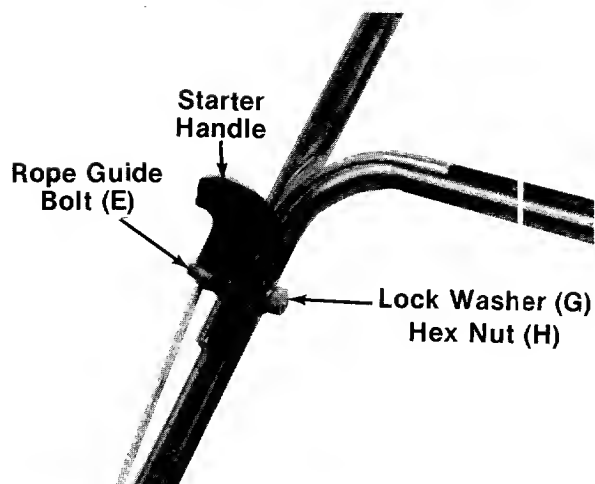

FIGURE 6.
2. Insert the rope guide bolt (E) through the right hand side of upper and lower handle.
4. Slip the starter rope into the rope guide bolt as shown in figure 6. Secure the rope guide bolt with lock washer (G) and hex nut (H). If more slack is needed in the starter rope, disconnect and ground the spark plug wire. Depress the blade control handle and pull additional rope out from the engine.